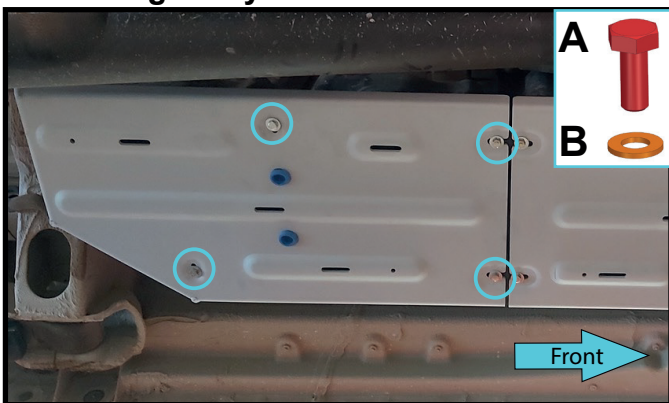

Fig. 9
9. Fix the fuel tank skid plate part 2 (item 2) using bolts M8x25 (item A) with washers 8 (item B) as shown in fig.9.